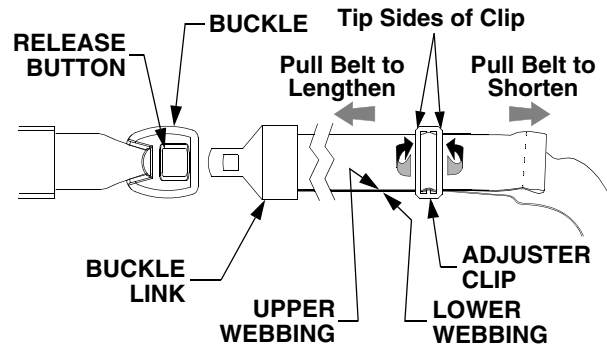

Figure 26
- To lengthen the belt, hold the ends of the adjuster clip and tip upward the side of the clip toward the buckle link. See Figure 26.
- While holding the clip, pull the upper webbing of the belt through the clip toward the buckle link. See Figure 26.